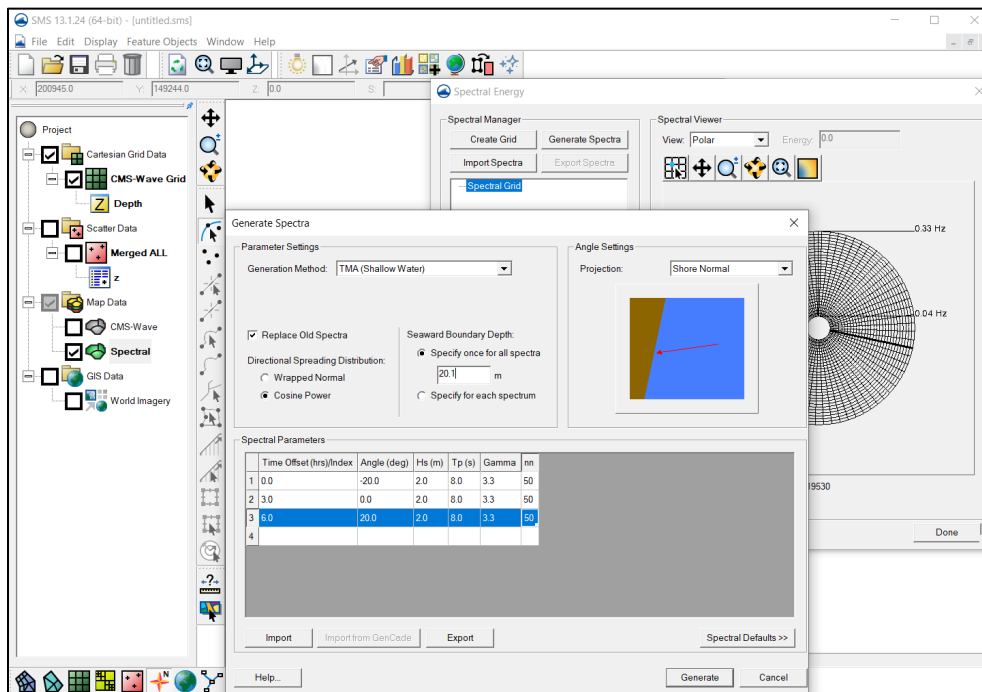

Figure 19. Display Spectral Energy and Generate Spectra dialogs.
- Click **OK** to close the *Create Spectral Energy Grid* dialog, and also create the specified spectral energy grid which covers 360-deg range (Figure 19). Note the bold radial line shown in the spectral energy grid corresponds to “0” degree of the “Local” plane in the Global (meteorological) coordinate system.
- Click **Generate Spectra** to bring up the *Generate Spectra* dialog. In the section of *Parameter Settings*, select (click) “TMA (shallow water)” spectrum in the *Generation Method* drop-down menu. In the *Angle Settings* section, select “Shore Normal” from the Projection drop-down menu (Figure 19).
- Enter “20.1” m for the *Seaward Boundary Depth* (Figure 19). Users can find this average depth by selecting (click) the first column using ‘Select Grid Column’ tool along the model grid seaward boundary in the “Cartesian module”.